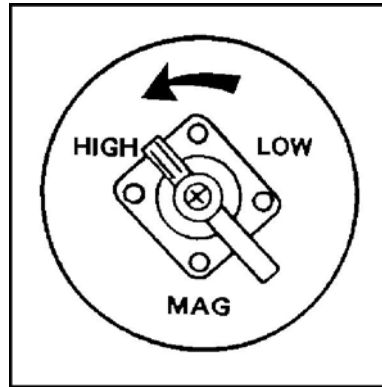

Figure 2. MAG switch.
- c. Turn the MAG switch on the ISU to HIGH until it clicks (Figure 2).